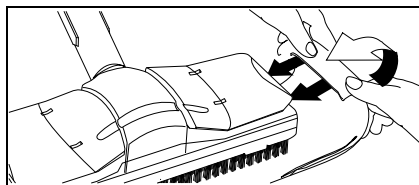

Figure 10
- Attach the floorcloth (H3) to the floor nozzle (H1). Fold up the floorcloth lengthways, and place the floor nozzle on the cloth. Pull the jutting out ends of the floorcloth one after the other under the retaining clips (H2) (see Figure 10).